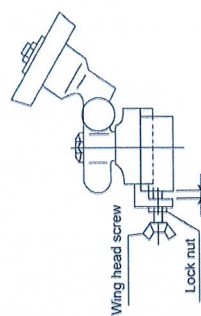

Fig. 8
3. If the grinding wheel is unable to reach the band knife after pulling the grinder lever, then loosen the nut, and turn the wing screw to make the mat move forward a little way (Fig. 8).